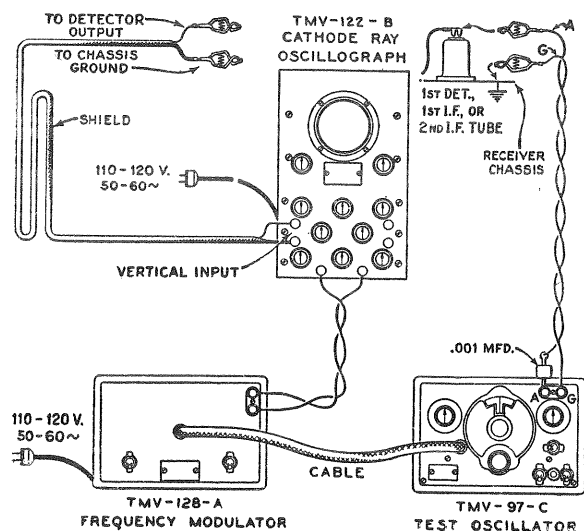
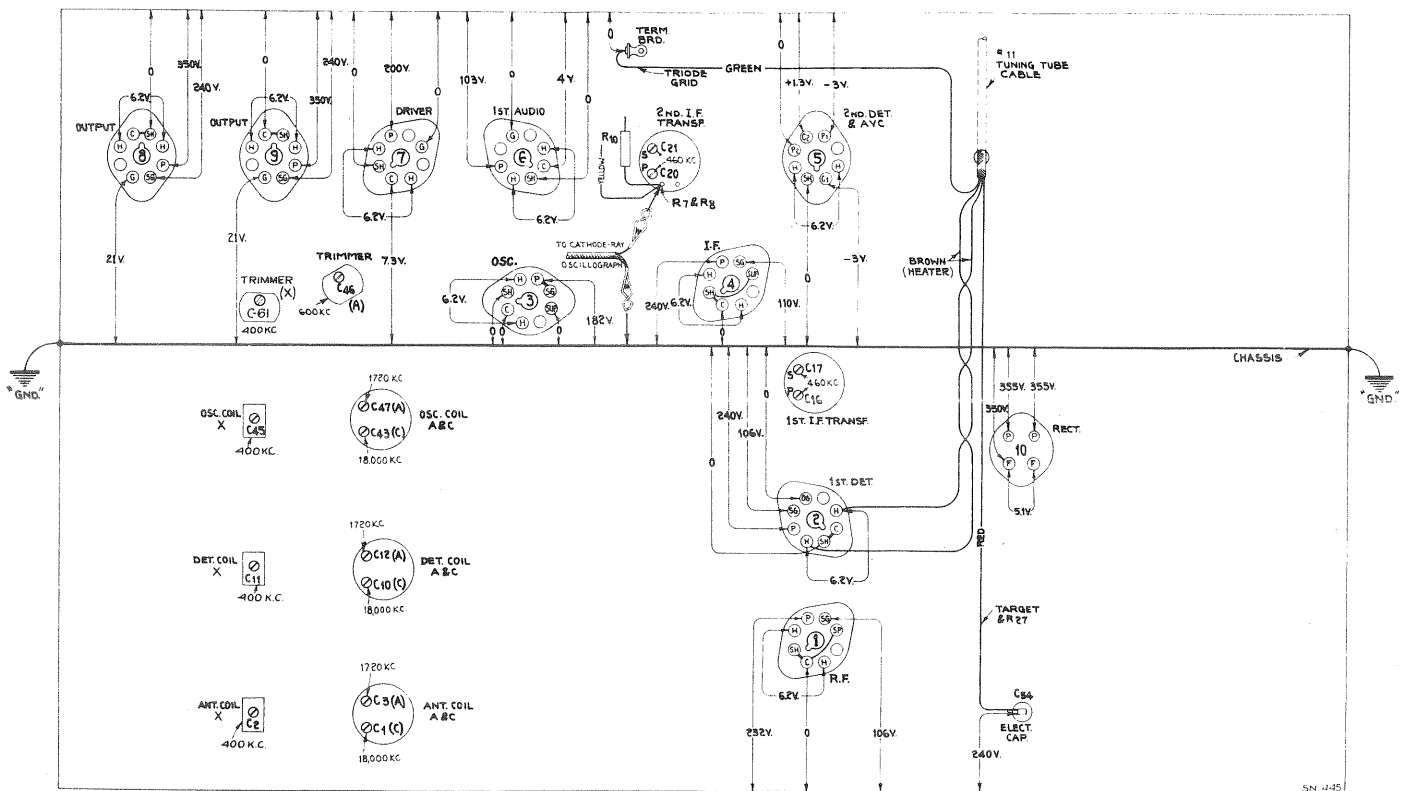

Figure 4—Alignment Apparatus Connections
Figure 5—Radiotron Socket Voltages
The four trimmers of the two i-f transformers are located as shown by Figure 5. Each must be aligned to a basic frequency of 460 kc. The last transformer must be aligned firstly and the first transformer aligned secondly. For such a process, it is necessary to feed the output of the Full Range Oscillator to the stages in their order of alignment, adjusting the trimmers of each transformer and observing the effect at the second detector output on the Cathode-Ray Oscillograph. The proper point of connection of the Oscillograph is with its vertical "high" input terminal attached to the juncture of R-7 and R-8, as illustrated in Figure 5, and with the "0" or ground terminal to the chassis. The "Ext. Sync." terminals of the Oscillograph should be connected to the Frequency Modulator as shown by Figure 4. A .001 mfd. capacitor installed in series with the Oscillator "Ant." lead will prevent the voltages of the stage under alignment from becoming upset. The vertical "A" amplifier should be "On" for the ensuing adjustments and its gain control kept at maximum. For each adjustment, the Oscillator output must be regulated so that the image obtained on the Oscillograph screen will be of the minimum size convenient for accurate observation. Proceed further as follows:
- (b) Attach the output of the test Oscillator between the control grid cap of the RCA-6K7 i-f tube and chassis ground as shown typically by Figure 4. Tune the Oscillator to 460 kc. and set its modulation switch to "On." Regulate its output until the signal produces a wave pattern on the Oscillograph screen, adjusting the Oscillograph controls to give a shape which is convenient for peak indications. Cause the image to stand still on the screen by manipulation of the frequency and synchronizing controls. Then carefully tune the two trimmers C-20 and C-21 of the second i-f transformer to produce maximum amplitude (vertical deflection) of the oscillographic image. Under this condition the transformer will be sharply resonated to 460 kc.
- (c) The Frequency Modulator should then be placed in operation and interconnected with the Full Range Oscillator by means of the special shielded patch cord. Figure 4 shows the proper arrangement. Set the Frequency Modulator sweep range switch to its "Lo" position and turn the Oscillator modulation switch to "Off." Change the timing control of the Oscillograph to "Ext." and place the range switch to its No. 2 position. Then carefully shift the tuning of the Oscillator so as to increase its frequency, until two distinct and similar waves appear on the Oscillograph screen and become exactly co-incident at their highest points. This condition will be found
oscillator coil trimmers are shown by Figure 5. The test Oscillator should be removed from connection with the i-f system and its output connected to the antenna-ground terminals of the receiver. No changes are to be made in the connections of the Oscillograph at the second detector. During the following adjustments, the Oscillator output should be regulated as often as is necessary to keep the oscillographic image as low as is practically observable. Adherence to this procedure will obviate the broadness of tuning that would result from a.v.c. action on a stronger signal. Proceed with the adjustments as follows:
- (a) With the receiver range switch in its Band A position, tune the station selector until the dial pointer is at a reading of 1720 kc. Adjust the test Oscillator to 1720 kc. (modulation "On" and Frequency Modulator disconnected) and increase its output to produce a registration on the Oscillograph. Carefully align the oscillator, detector and antenna trimmers, C-47, C-12 and C-3 respectively, so that each brings about maximum amplitude of output as shown by the wave on the Oscillograph. It will be necessary to have the timing control of the Oscillograph on "Int." for this operation. After each trimmer has been peaked, the Oscillograph timing control should be set to "Ext." and the Frequency Modulator placed into operation with its connections to the Oscillator and Oscillograph made in accordance with Figure 4. Turn the modulation switch of the Oscillator to "Off" and retune the Oscillator (increase frequency) until the forward and reverse waves show on the Oscillograph and become coincident at their highest points. Adjust the trimmers C-47, C-12 and C-3 again, setting each to the point which pro-
The voltage values indicated from the Radiotron socket contacts to chassis on Figure 5 will serve to assist in the location of causes for faulty operation. Each value as specified should hold within  $\pm 20\%$  when the receiver is normally operative at its rated supply voltage. Variations in excess of this limit will usually be indicative of trouble in the basic circuits. The voltages given are actual operating values and do not allow for inaccuracies which may be caused by the loading effect of a voltmeter's internal resistance. This resistance should be duly considered for all readings. The amount of circuit resistance shunting the meter during measurement will determine the accuracy to be obtained, the error increasing as the meter resistance becomes comparable to or less than the circuit resistance. For the majority of readings, a meter having an internal resistance of 1000 ohms per volt will be satisfactory when the range used for each reading is chosen as high as possible consistent with good readability.